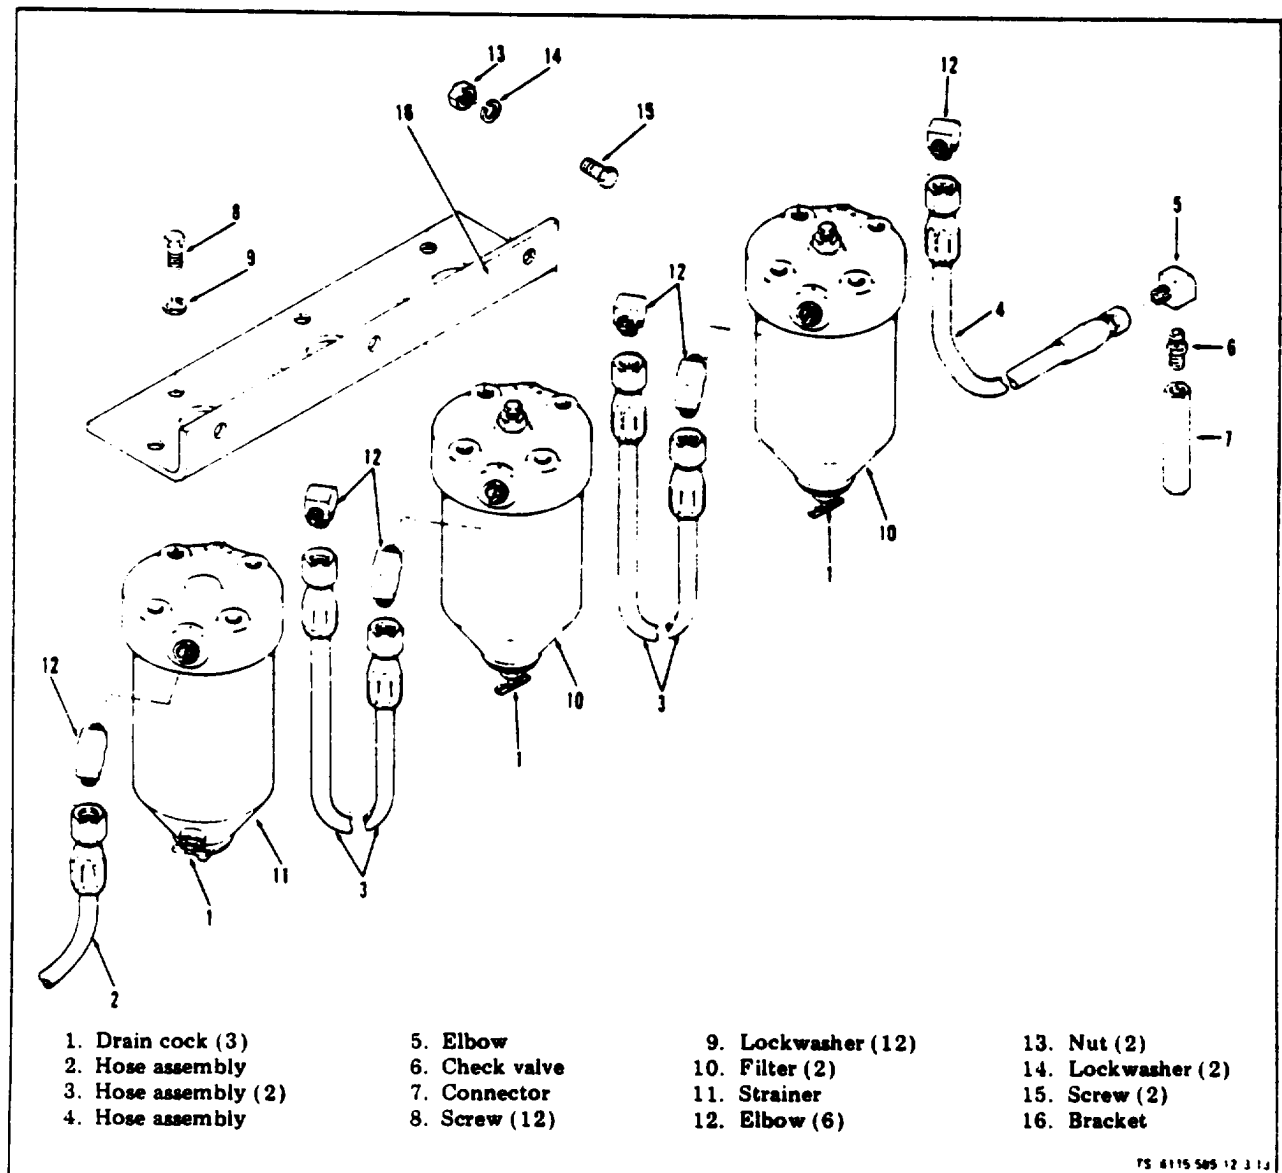

Figure 3-13. Fuel Filters and Fuel Strainer Assembly
(1) Fuel Filter Assemblies (see figure 3-13). On ASK equipped generators, remove FUEL FILTERS access door.
(2) Fuel Strainer Assembly (see figure 3-13). Inspect strainer assembly (11) for dents or other physical damage. Check for leaks especially around fuel line fittings (12), drain (1), or where the bowl joins the head. Check that strainer assembly (11) is securely attached to mounting bracket (16).
(4) Fuel Hoses. Inspect fuel hoses (2, 3 and 4, figure 3-13) for leaks or physical damage. Check to see that fuel hose fittings are securely tightened in place.
(1) Fuel Filter Assemblies (see figure 3-13). Daily before and after operation, open drain valves (1) and drain water and sediment from assemblies.
(2) Fuel Strainer Assembly. Daily, before and after operation, open drain valves (1) and drain water and sediment from strainer assembly (11).